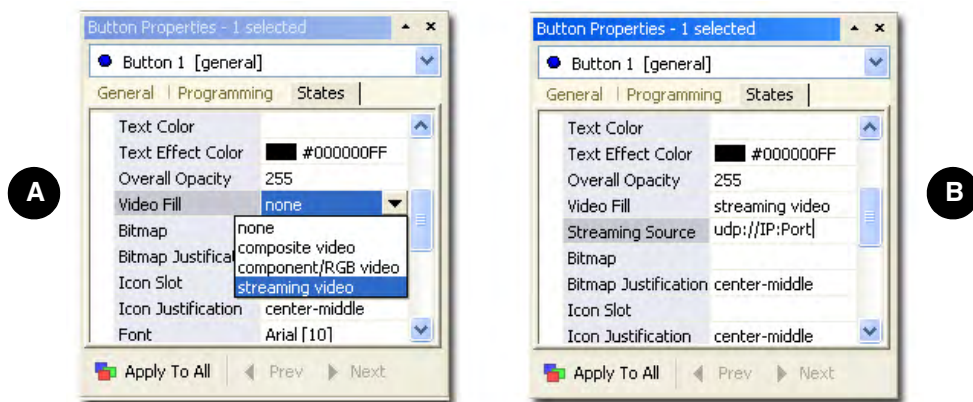

FIG. 45 Video Fill - Button Properties setting
11. Double-click the **All States +** symbol to expand this folder (FIG. 45) and locate the *Video Fill* field.
12. Use the *Video Fill* drop-down arrow to select the **Streaming Video** option (**A** in FIG. 45).
13. Within the newly added *Streaming Source* field, enter the Transport Protocol, IP Address of the MAX-CSE, and Target Video Port (**B** in FIG. 45).